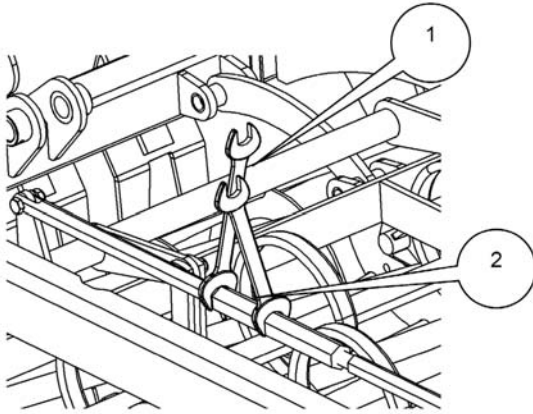

Fig. 18 Tine section adjustment
- using a flat wrench (1) and wrench (2), loosen the counter-nut (Fig. 18)